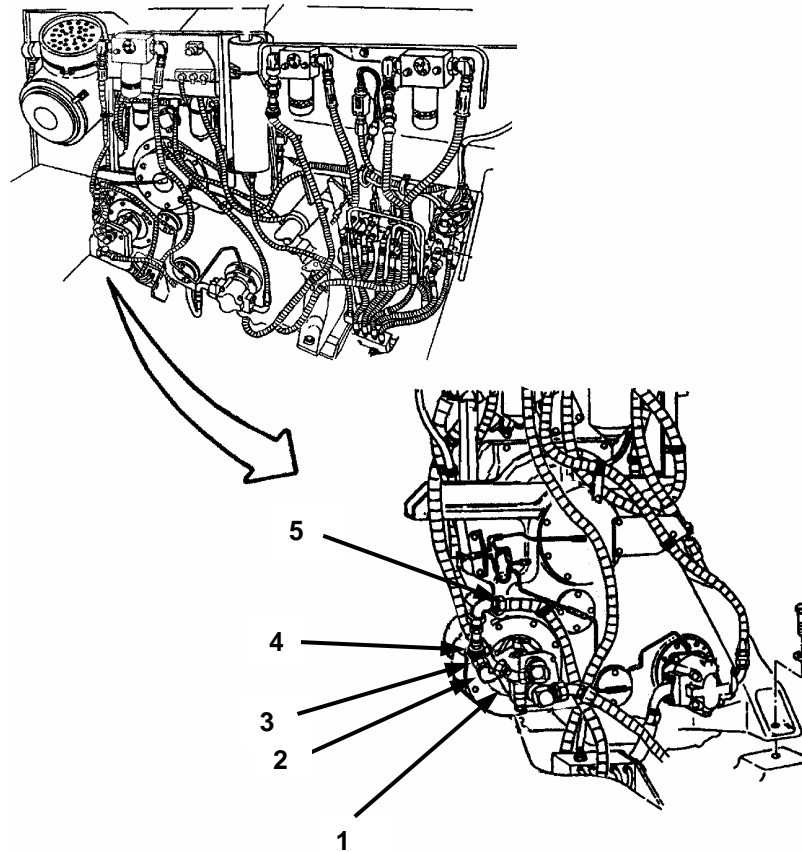

Figure 2-3. Compensating Pump between Hose and Elbow
Steps (1) through (4) below apply to Figure 2-3.
- (1) While performing TASK F per TM 5-2350-262-34, Power Package Replacement–Installation, adjust 90° elbow (2) on compensating pump to face up and angle towards transfer case.